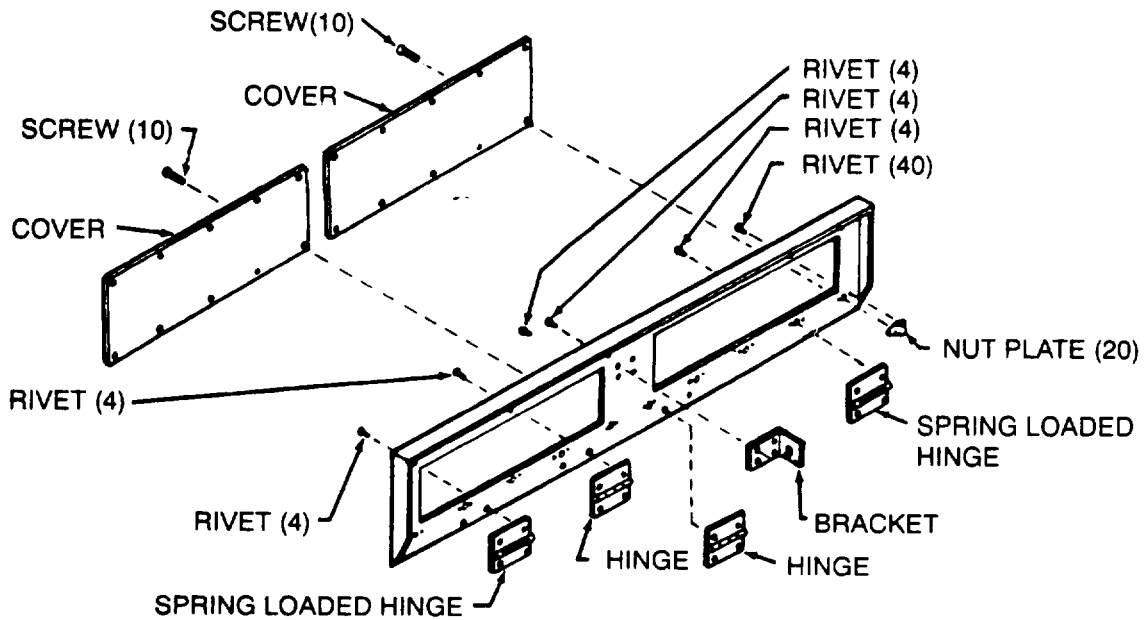

Figure 4-46. Fresh Air Damper Door
- (1) Use a rag or soft brush to remove dust from damper door and linkages.
- (2) If necessary wash gears, linkages, and associated hardware in dry cleaning solvent (Fed Spec P-D-680).
e. Reassembly of damper door. (See Figure 4-46,)
- (1) If hinges, bracket, or nut plates were missing, install replacement part with new rivets.
- (2) Using screwdriver, secure covers with ten screws in each cover.